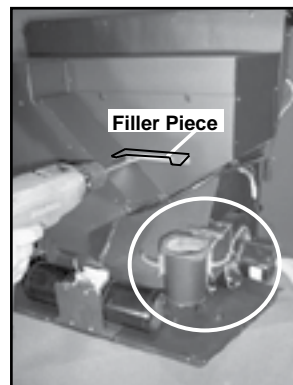

Figure 18.2
1. Remove the top vent adapter from the vertical exhaust transition pipe. **Figures 18.2 and 18.5.**